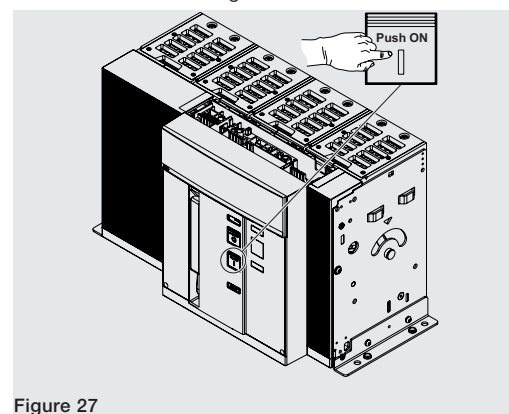

Figure 27
4. Closing - Press the closing pushbutton "I - Push ON" as indicated in Figure 27.